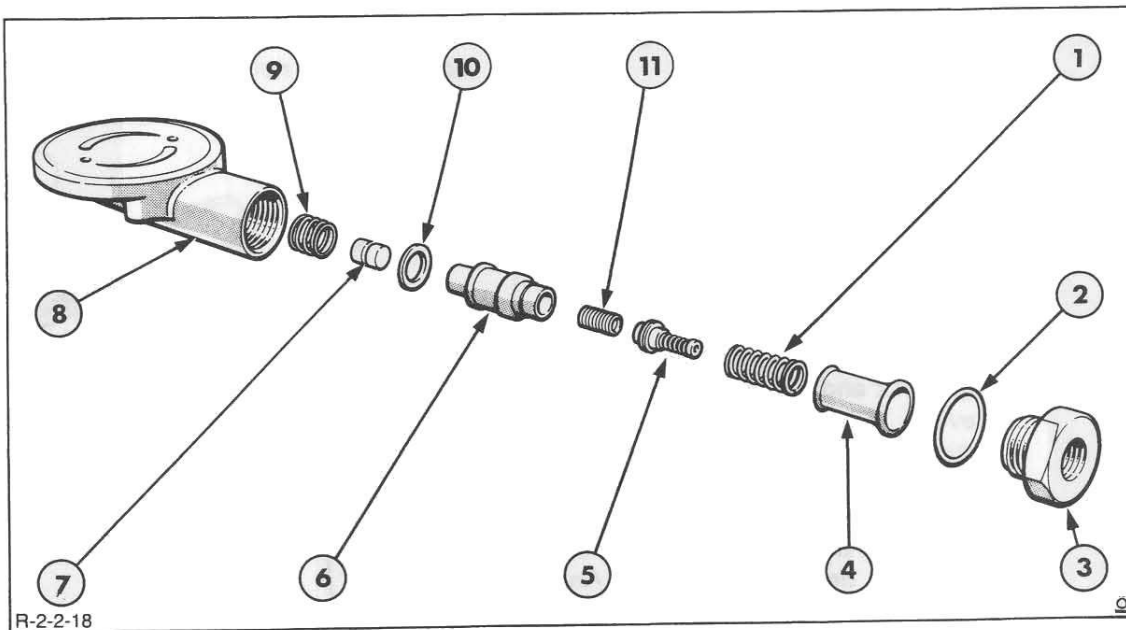

Figure 18
11. Remove the fuel inlet connection and disassemble the valve. An exploded view is shown in Figure 18.